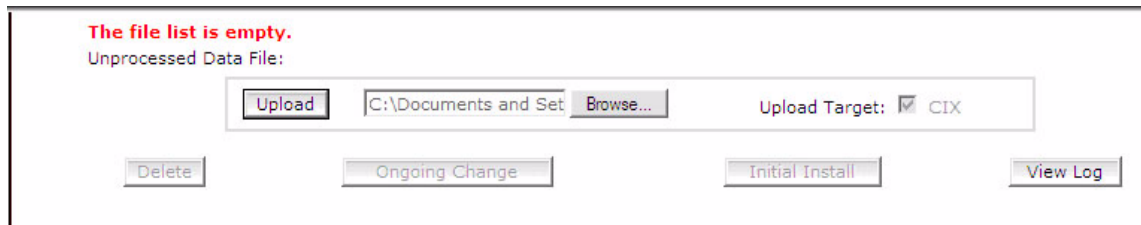

Figure 2-4. Upload Screen
- Once the path to the target .xls file has been entered, click the **Upload** button as shown in Figure 2-4.